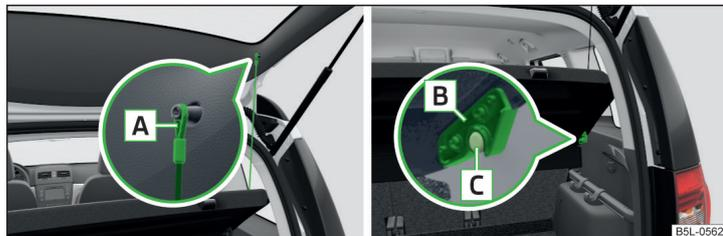

Fig. 100 Secure luggage compartment cover
- › Unhook the support straps [A] » Fig. 100 from the luggage compartment.
- › Position the mounts on the cover [B] » Fig. 100 onto the side trim panel via bolts [C].
If the support straps [A] » Fig. 100 are attached to the boot, then the boot cover will rise as well when the luggage compartment is opened.